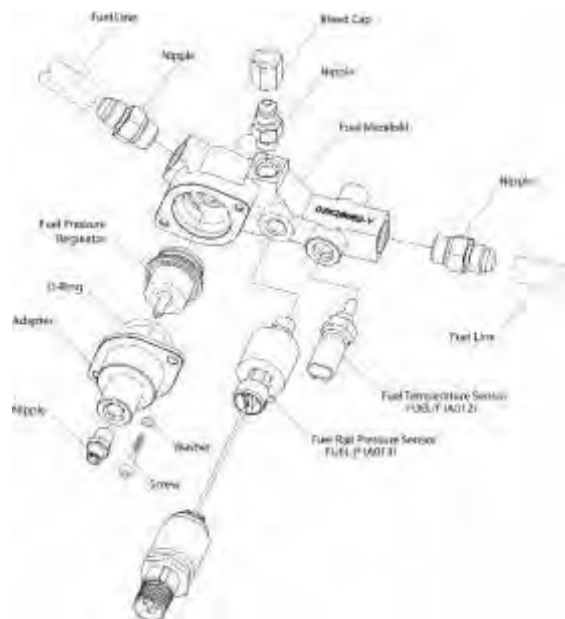

Figure 13
- (1) Put a fuel collection container under the engine where the fuel hose connects to the fuel manifold return.
- (2) Loosen the cap on the fuel pressure regulator bleed port to release pressure from the fuel hoses.
- (3) Remove the pressure source line connected to the inlet nipple on the adapter for the fuel pressure regulator (Figure 13).
- (4) Remove the two screws and washers (that attach the fuel pressure regulator adapter to the fuel manifold).
- (5) Remove the fuel pressure regulator adapter and O-ring. Discard the O-ring.
- (6) Remove the fuel pressure regulator from the fuel manifold.
- (7) Remove the fuel collection container and dispose of the fuel in accordance with environmental regulations.
- (1) Install a new O-ring on the adapter (Figure 13).
- (2) Install the adapter on the fuel pressure regulator.
- (3) Install the fuel pressure regulator/adapter on the fuel manifold until the adapter is seated against the mating face of the fuel manifold.
- (4) Install the two screws each with a washer to attach the adapter and fuel pressure regulator to the fuel manifold.
- (5) Torque the screws to the specified limits as per the Standard Torque Tables in the latest revision of the **Service Table of Limits - SSP-1776**.
- (6) Connect the pressure source line to the inlet nipple on the adapter for the fuel pressure regulator.
- (7) Install and tighten the bleed cap on the fuel pressure regulator bleed port.